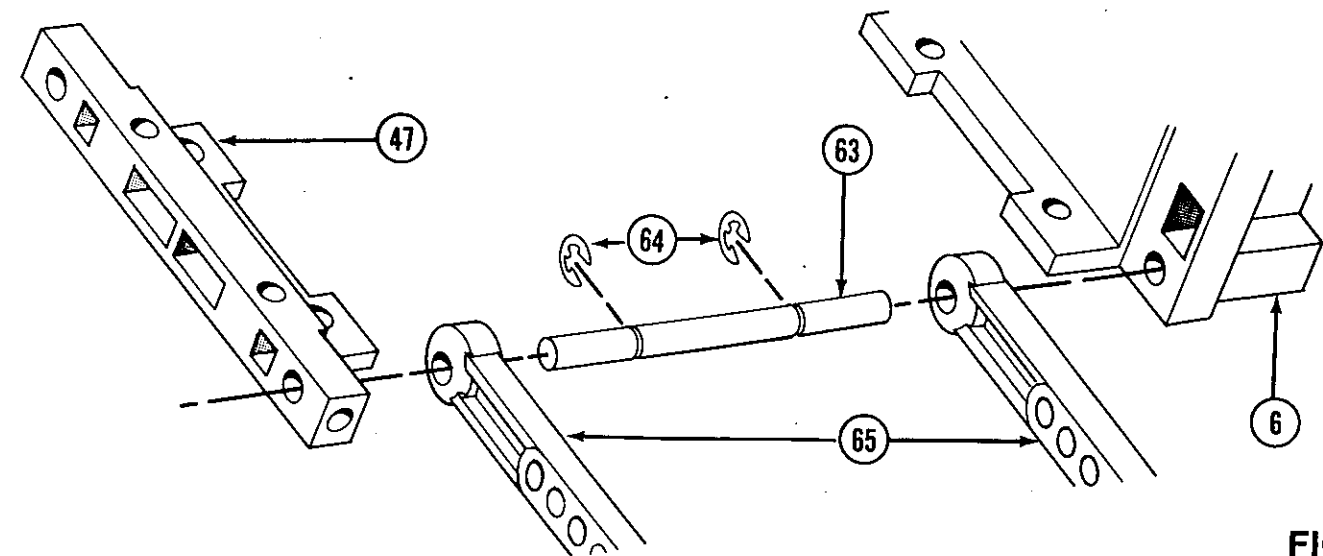

FIG. 27
18. Slide 1/8" x 1.785 hinge pin (63) through hole in rear pivot support (47) from rear to front. Fig. 27.
19. When forward E-clip groove is located half way in between rear pivot support (47) and rear bulkhead (6), slide one end of suspension link (65) (holes to the inside) onto hinge pin (63) to rear pivot support (47). Place 1/8" E-clip (64) in forward groove in hinge pin (63). Fig. 27.
20. Slide another suspension link (65) down hinge pin (63) and up against 1/8" E-clip (64). Fig. 27.
21. Slide hinge pin (63) forward into rear bulkhead (6) as forward suspension link (65) is secured between forward 1/8" E-clip (64) and rear bulkhead (6). Fig. 27.
22. Slide suspension link (65) back towards rear pivot support (47) and secure it there with an 1/8" E-clip (64) in rear groove in pin (63). Fig. 27.